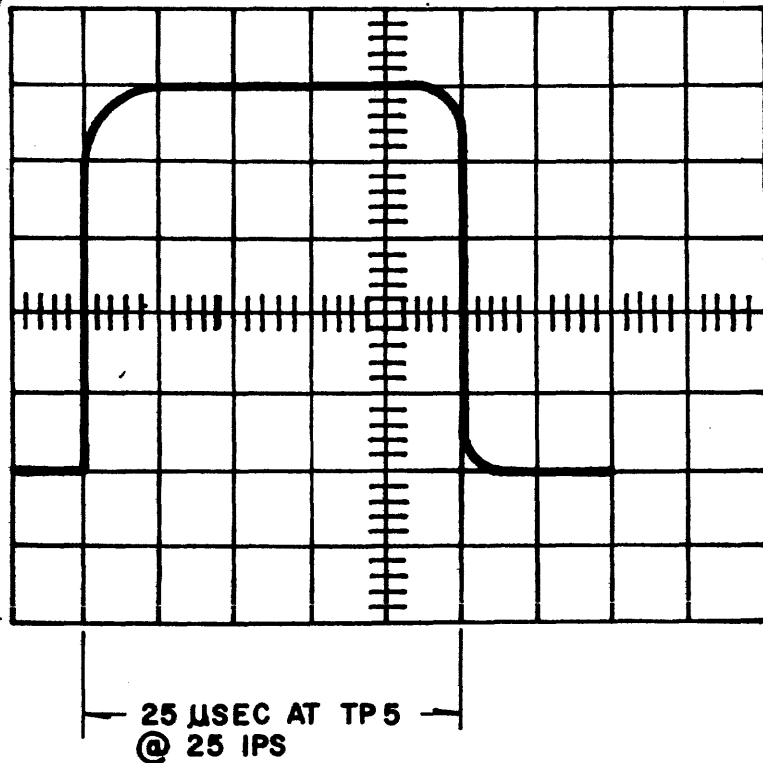

Figure 65. Read Strobe Delay Adjustment, Single Gap Systems
4. A positive pulse will be observed at test point 5. (See Figure 65.) Adjust R28 for a pulse width of approximately one-half frame time. At 25 ips this should be 25  $\mu$ sec, at 37.5 ips, 17  $\mu$ sec, and at 45 ips, 14  $\mu$ sec. A frame time is defined as  $\frac{1}{VD}$ , where V is the transport velocity and D is the operating data density.